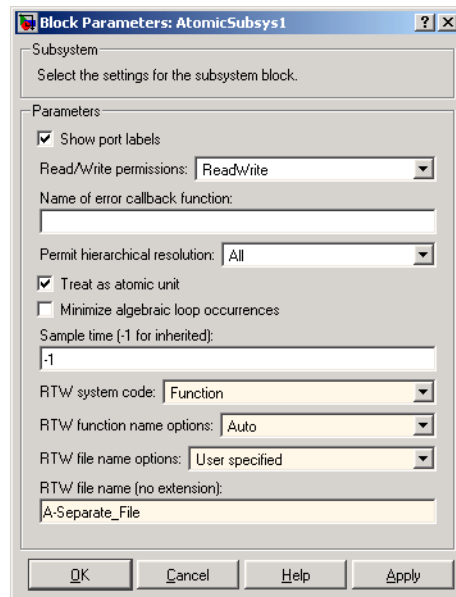

Figure 4-4: Subsystem Function Code Generation with Separate User-Defined File Name
Figure 4-4 shows the **Block Parameters** dialog with the Function option selected.
- 3 Select **Function** from the **RTW system code** menu as shown in Figure 4-4.
Figure 4-4 shows the use of the `UserSpecified` filename option.